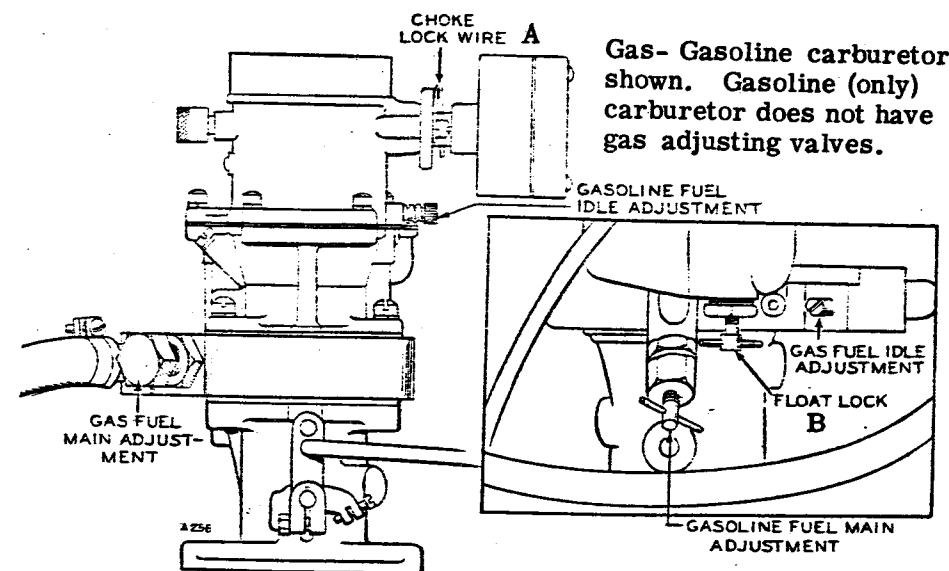

Fig. 17 Carburetor Adjustments
GAS FUEL OPERATION. - A special carburetor is used on plants equipped for gas fuel operation. See that the float lock screw (B, Fig. 17) is turned up tightly to prevent the float from vibrating inside the carburetor. If an emergency source of gasoline fuel is also connected, see that the gasoline shut off valve is closed. See that the choke lock wire (A, Fig. 17) is properly inserted through the choke shaft hole, to hold the choke in its wide open position.
3. Back off the float lock screw (B, Fig. 17) until it seats firmly in the down position. Turn the gasoline shut off valve to its open position.
CARBURETOR, GASOLINE. - The carburetor has main and idle adjusting needle valves (Fig. 17). The main adjusting needle, at the bottom of the carburetor, affects the operation at the heavier load conditions. The idle adjusting needle, at the side of the carburetor, affects the operation at light or no load conditions.